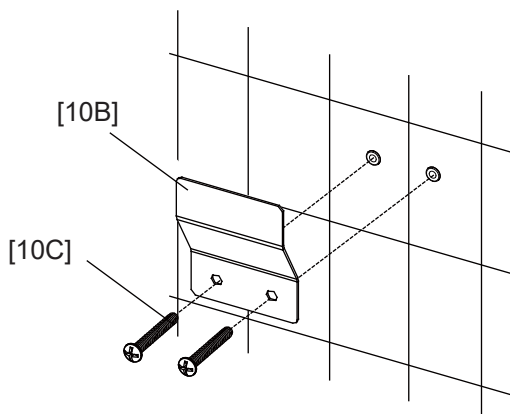

Fig 3.3
**3-3** Secure the **Brackets [10B]** with **Screws [10C]**. (Fig 3.3)